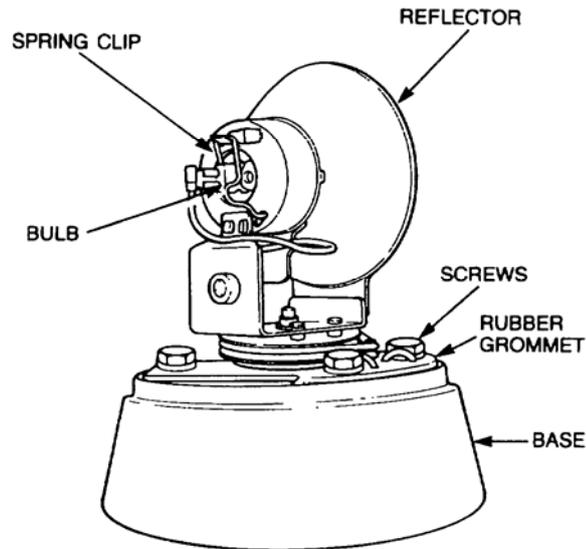

Figure 15 Rotating Beacon Light Bulb Replacement
- f. Remove the spring clip securing the bulb (refer Figure 15).
- g. Remove the three screws and washers securing the light unit to the base (refer Figure 15).